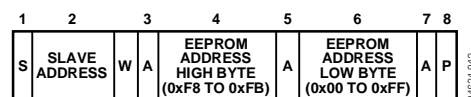

Figure 33. Single Byte Write to EEPROM
- To write a single byte of data to EEPROM. In this case, the command byte is the high byte of the EEPROM address from 0xF8 to 0xFB. The first data byte is the low byte of the EEPROM address, and the second data byte is the actual data, as shown in Figure 33.